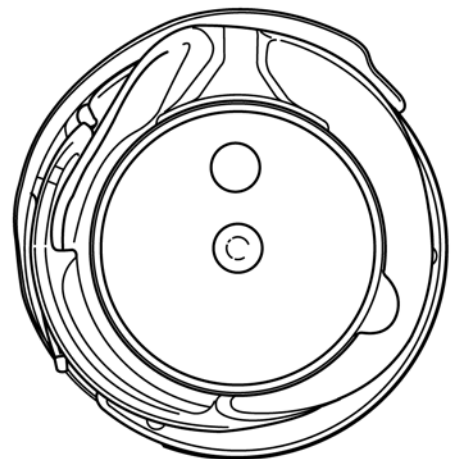

Fig. 74
- Insert the bobbin case base complete with sewing hook gib into the sewing hook (fig. 74).